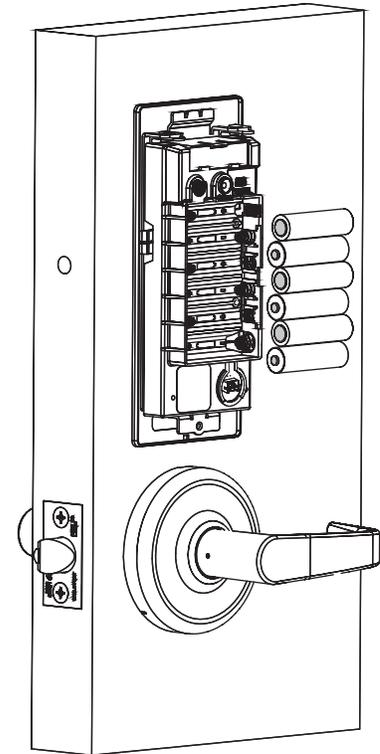

Fig. 12
1. Place (6) "AA" alkaline batteries in the compartment, being careful to align polarity properly (Fig. 12).